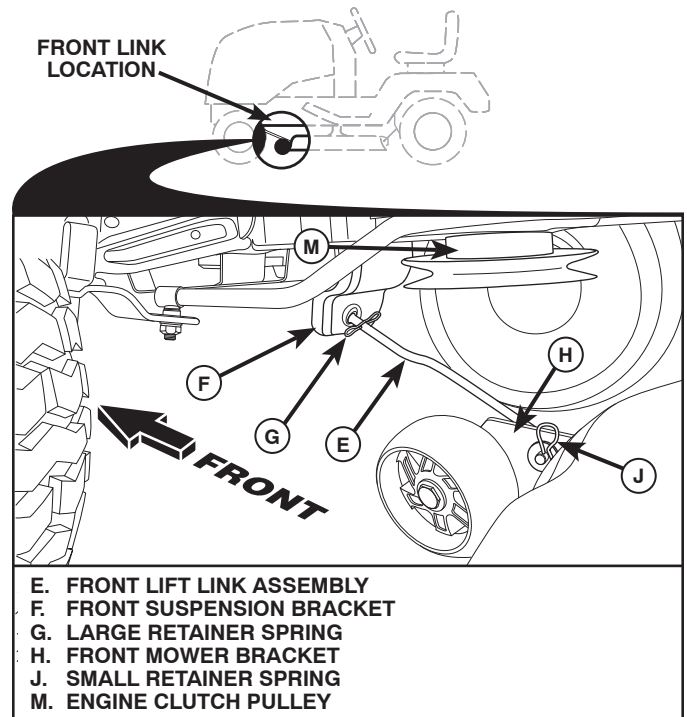

Fig. 31
8. ATTACH FRONT LINK (E) (See Fig. 31)
- From front of tractor, insert rod end of front link (E) through front hole in tractor front suspension bracket (F).
- Move to left side of mower and insert large retainer spring (G) through hole in front link (E) behind front suspension bracket (F).
- Insert other end of link (E) into hole in front mower bracket (H) and secure with washer and small retainer spring (J).